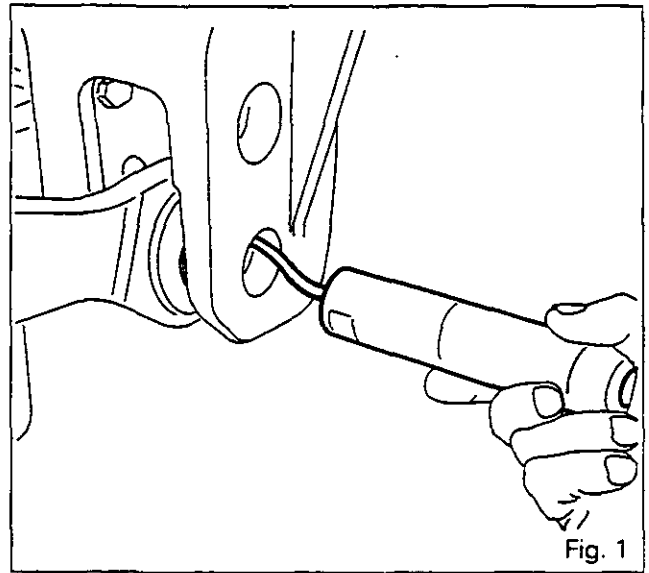

Fig. 1
1. Immobilize the tractor. Apply the handbrake. Fit chocks between the frame and the front axle (see 2 A01 Fig 1).
8. On tractors fitted with an **automatic hitch**, the sensor is removed outwards (Fig.1).